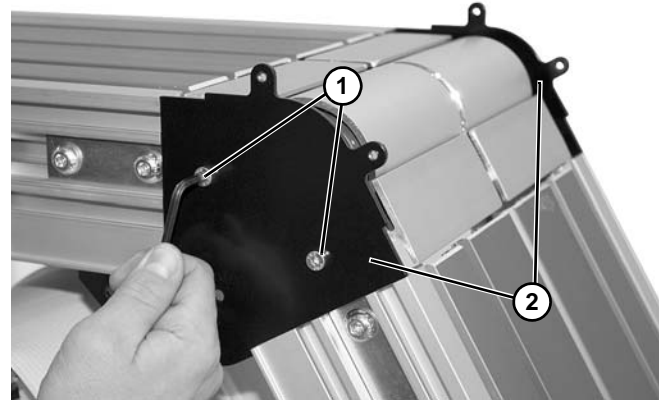

Figure 94
3. Remove two screws (Figure 94, item 1) from both sides of knuckle. Remove side plates (Figure 94, item 2).